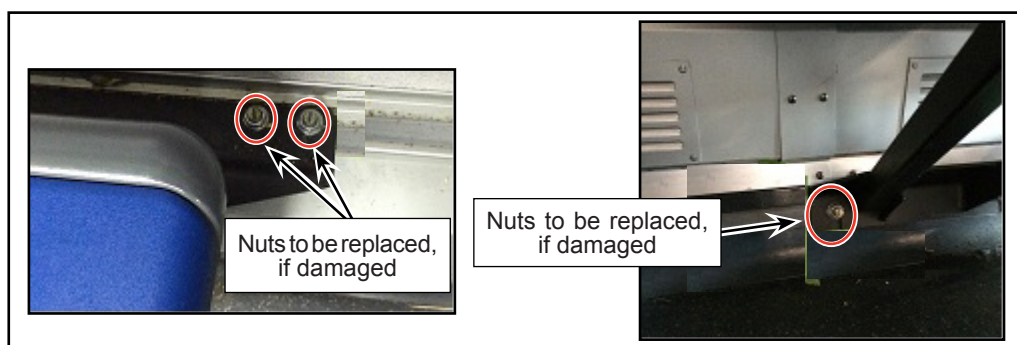

Figure 22 - Typical Location of Nuts
- 2.17. Discard the damaged nuts on seat brackets and install new hardware provided (see Figure 22).